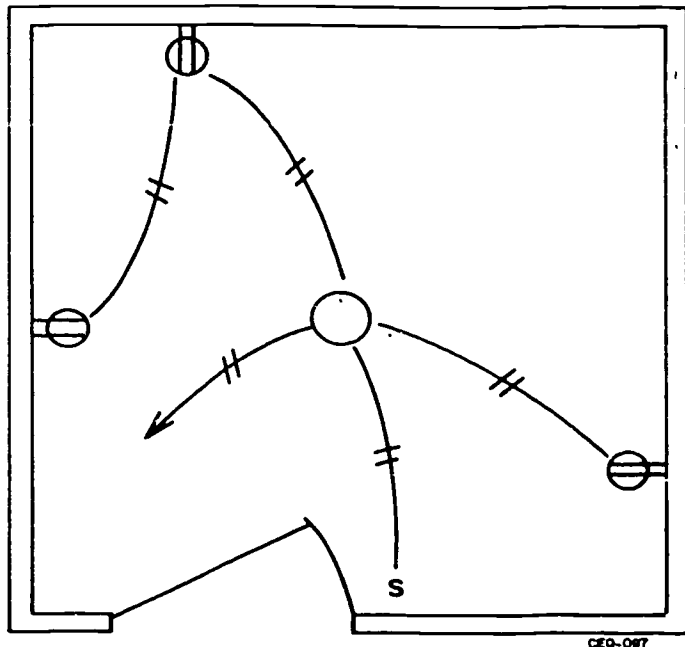

Figure 5-7. Floor plan (objective 245, exercise 1).
1. Draw a working sketch of the circuit shown in figure 5-7. Show all necessary splices, terminal connections, and conductor identification.